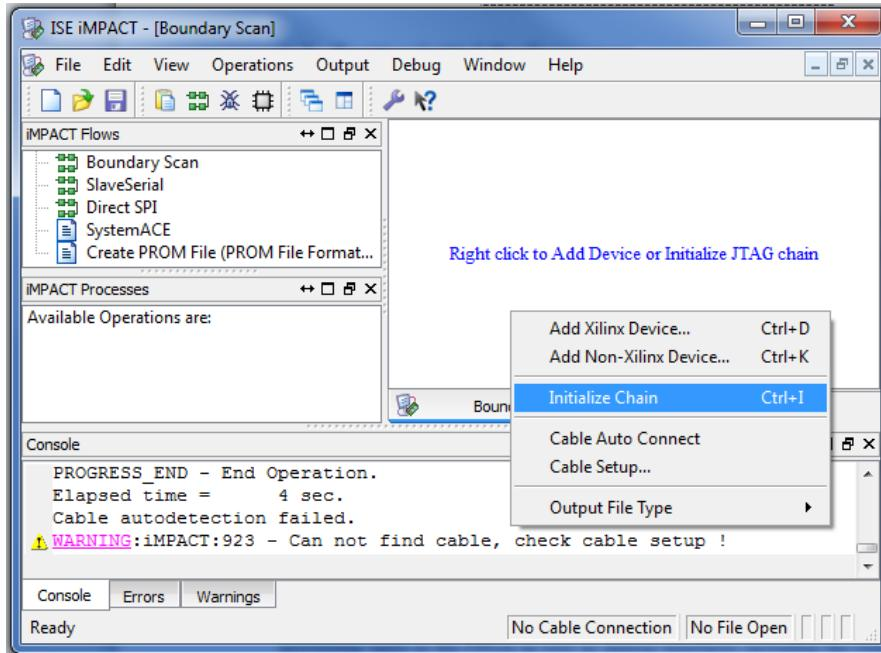

Figure 32: Selecting “Intialize Chain” in the drop-down menu.
9. Right-click in the area indicated in figure 32 to bring up a drop-down menu; click “Initialize Chain.”